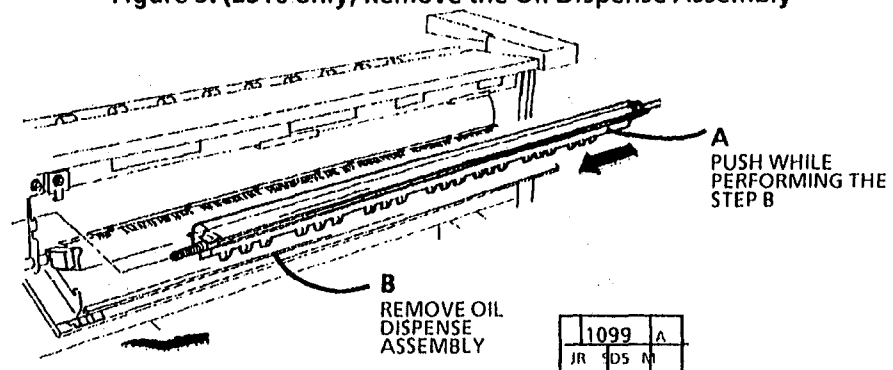

Figure 4.(2510 W/Tag 252) Remove the Oil Dispense Assembly
6. (Figure 4): Place the probe on the fuser roll. DMM should read $149^{\circ}\text{C} \pm 2^{\circ}$, (2515 60 Hz ONLY $143^{\circ}\text{C} \pm 2^{\circ}$).